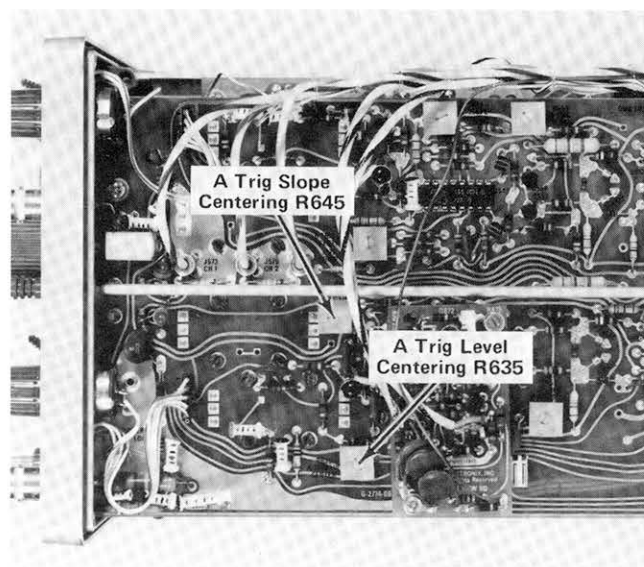

Fig. 5-26. Location of A Trigger Slope Center and Level Center adjustments.
c. ADJUST—A Trigger Level Centering adjustment, R635, (see Fig. 5-26) for the trigger point of the display to be at the graticule center, and adjust the B Trigger Slope Centering adjustment, R645 (see Fig. 5-26) so that the trace begins at the graticule center in both the + and - slope.